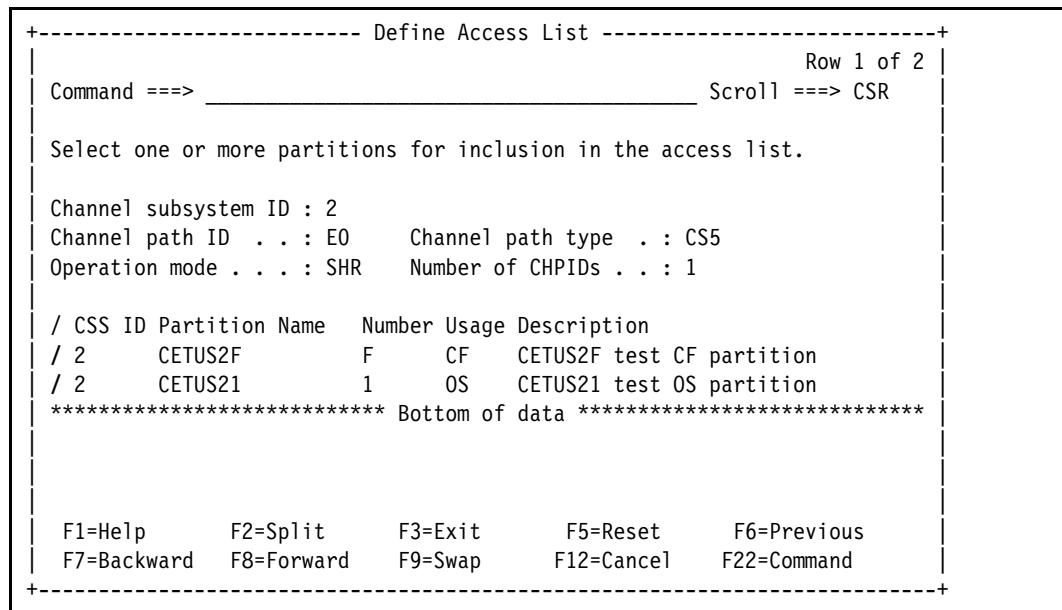

Figure 14-4 Processors: Define Access List, CS5
7. HCD prompts you to select which partitions the CHPID should have Access to. Type forward slash '/' next to the wanted partitions (Figure 14-4), and press **Enter**.